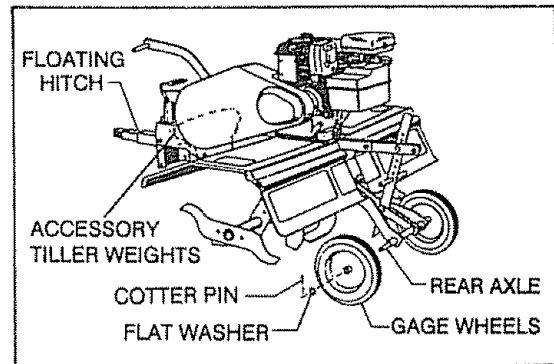

FIG. 2
- Assemble Gauge Wheels onto the Rear Axle with extended Hub inward and secure with a Flat Washer and Cotter Pin. (See Fig. 2)